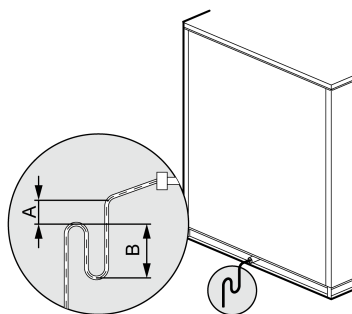

Fig.11
- (1) Condensate drain side is pitched lower than the opposite side. (see Fig. 11)
- (2) When shipped out from factory, both the condensate outlets are blocked by rubber plug. So before installation, please take the rubber plug out.
- (3) Condensate removal is performed by attaching a PVC pipe to the drain pan and terminated in accordance with local or state Plumbing/HVAC codes.
- (4) The condensate pipe shall be installed with an inclining angel of $5^{\circ}\sim 10^{\circ}$, so as to facilitate the drainage of condensate.
- (5) As the inside of the unit is in the negative pressure status, it is required to set up a backwater elbow. The requirement is: $A=B\geq P/10+20(\text{mm})$. P is the absolute pressure inside the unit. The unit of the pressure is Pa.
- (6) After the electrical installation is completed, carry out the testing of the drainage system.
- (7) It is not allowed to connect the condensate drain pipe into waste pipe or other pipelines which are likely to produce corrosive or peculiar smell to prevent the smell from entering indoors or corrupt the unit.
- (8) It is not allowed to connect the condensate drain pipe into rain pipe to prevent rain water from pouring in and cause property loss or personal injury.
- (9) Condensate drain pipe should be connected into special drain system for air conditioner.